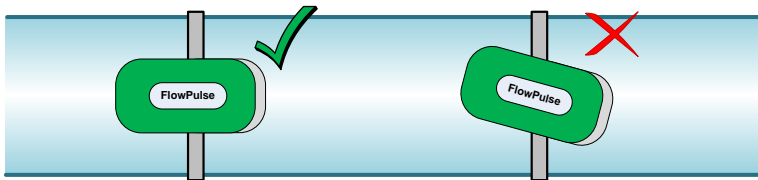

Figure 3: *Flow Pulse* correctly aligned along the pipe axis.
- Ensure that the *Flow Pulse* is aligned along the pipe axis, as illustrated in Figure 3: